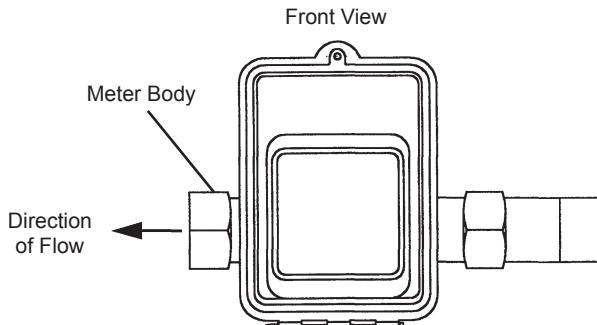
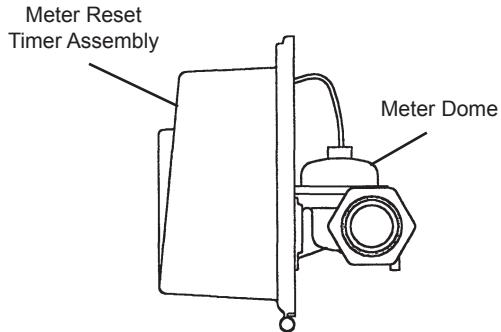

Figure 2
Figure 3
4. Meter bodies must be installed the horizontal position with the reset timer assemblies in the vertical position. See Figure 2 and Figure 3.